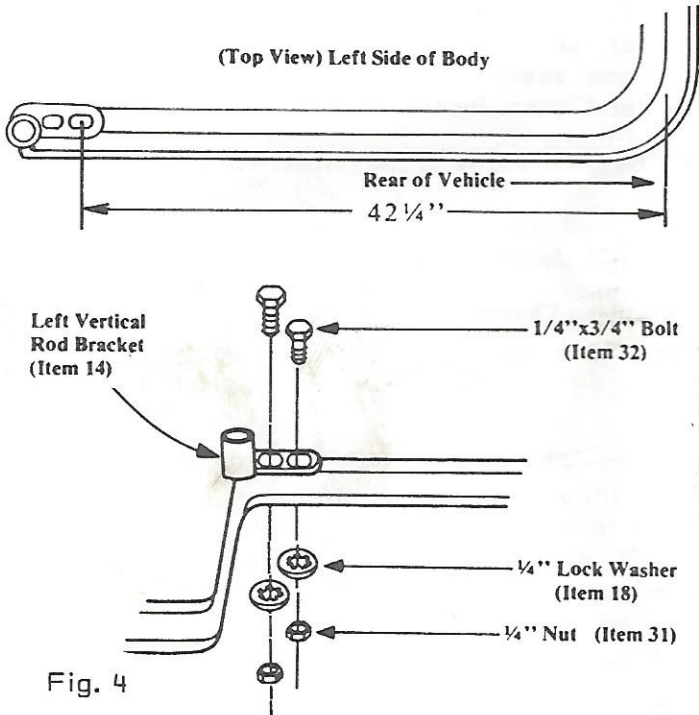

Fig. 4
1. Make provisions for the Vertical Rods to mount at the rear of the door openings. Locate Vertical Rod Bracket on top edge of body behind door opening as shown in Figure 4. Use bracket as a template to mark the locations for the holes.